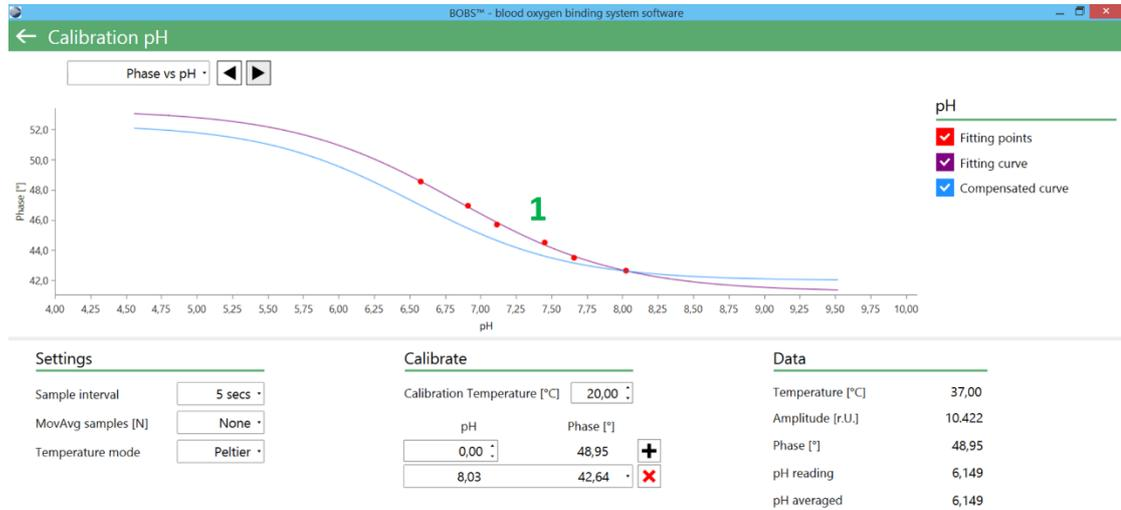

Figure 17: pH calibration curve
13. Check if the fitted calibration curve crosses all calibration points (1, Figure 17).
The BOBST™ software has an in-built temperature compensation for pH measurements and is able to adjust pH readings for other experimental temperatures (blue calibration line, Figure 17).